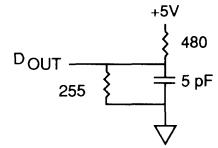

Fig. 2 OUTPUT LOAD EQUIVALENT
- $t_{HZCE}$  and  $t_{HZWE}$  are tested with CL = 5pF as in Fig. 2. Transition is measured  $\pm 500\text{mV}$  from steady state voltage, allowing for actual tester RC time constant.